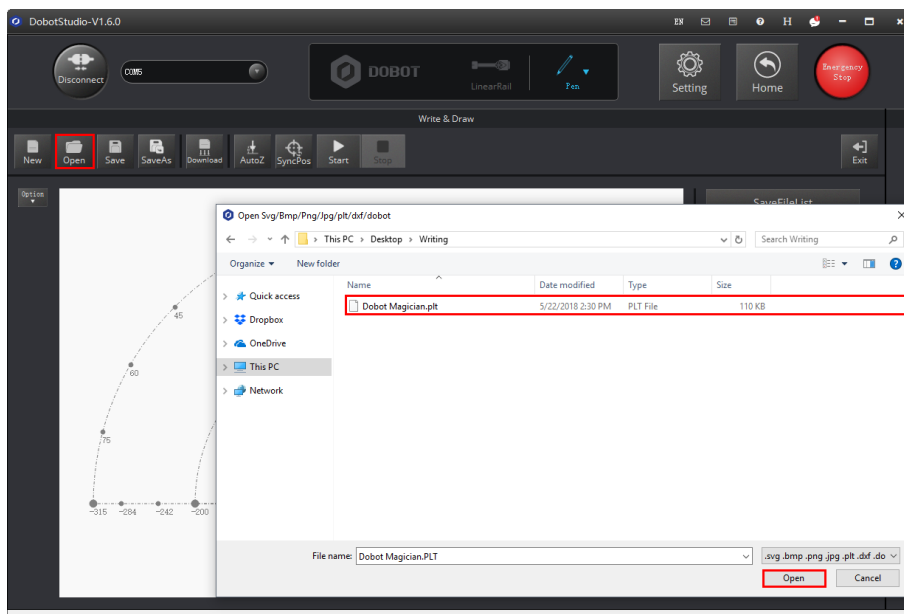

Figure 5.47 Open a PLT or SVG system image file
- Click **Open** on the **Write & Draw** page to import a built-in PLT or SVG image file from the DobotStudio installation directory *InstallatonDirectory\DobotStudio\config\prefab\system\source*, as shown in Figure 5.47. You can also import your custom PLT or SVG image file.